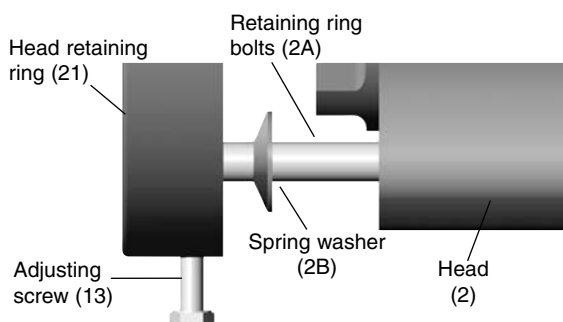

Figure 1
Make sure the syphon adjusting screw (Figure 1, Item 13) is tight. This will prevent making adjustments to the syphon after the joint is rebuilt. Loosen the horizontal support tube nut (9) approximately two turns and give it a sharp hit with a hammer. This will disengage the horizontal support tube (5). Remove the head bolts (2A), spring washers (2B), and the head retaining ring (21). Once this is done, remove the support tube nut, cup seal (22), head (2), and energized seal (11). Discard the cup seal, spring washers, and energized seal. Let the support tube rest. Leave it in this position and work around it.